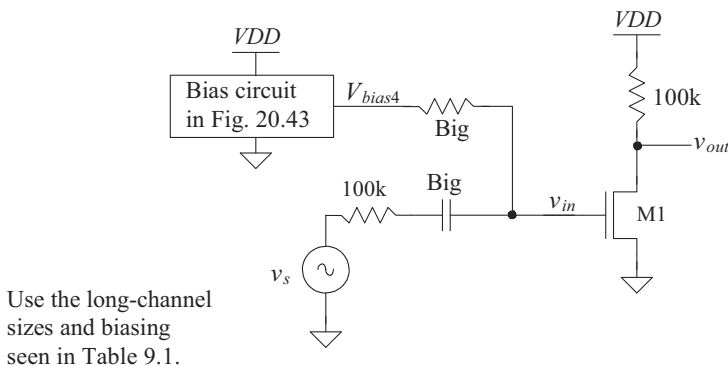

Figure 21.58 Amplifier used in Problem 21.2.
- 21.2** Estimate the frequency response of the circuit seen in Fig. 21.58. Verify your hand calculations using SPICE.